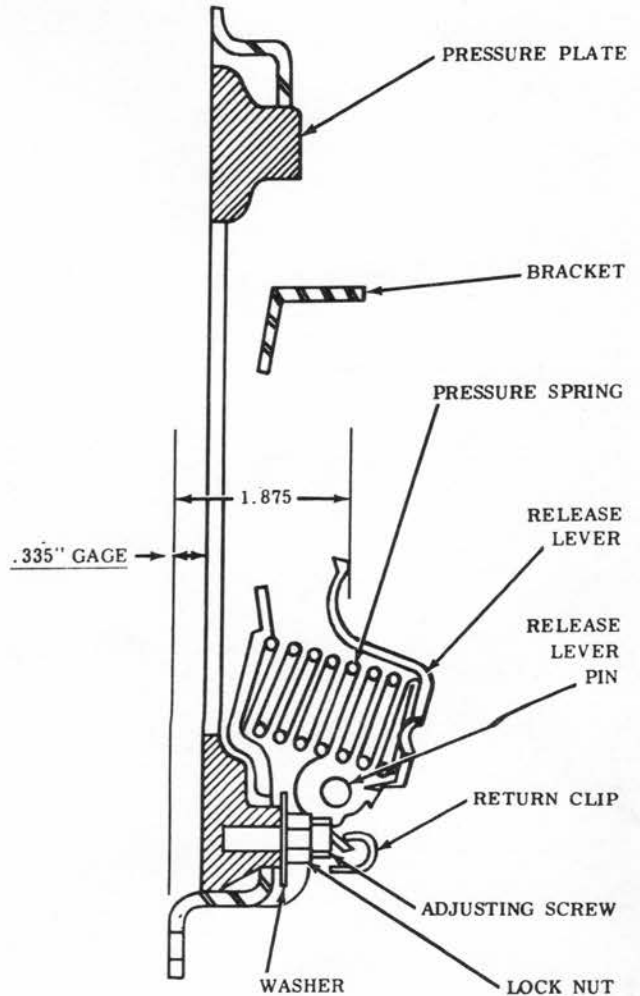

Fig. 4 - Adjustment Data
e. With the cover assembly clamped on rebuilding machine or bolted to a flywheel, the clutch can be adjusted using data given in Fig. 4.